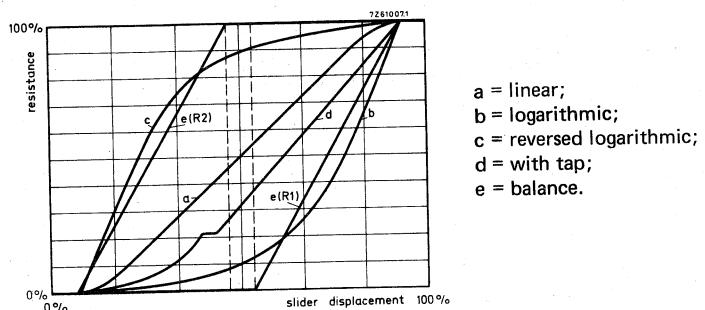

Fig. 2 Resistance laws.
**Resistance law** — Relationship between the resistance measured between the slider terminal (b) and the designated end terminal (a), and the mechanical position of the actuating device (Fig. 2).